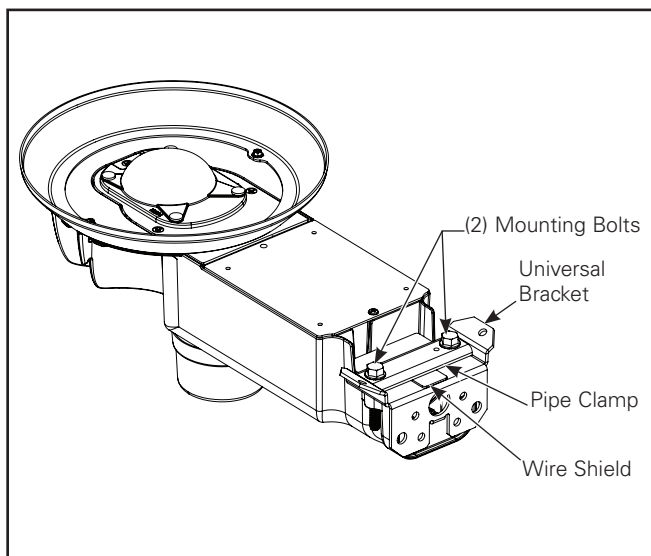

Figure 1.
1. Use a 1/2" socket wrench to remove wall/pole mount bracket from fixture and set aside two fixture mounting bolts and wire shield. Discard pipe clamp bracket. (Figure 1.)
1. Use a 1/2" socket wrench to remove pipe clamp bracket from fixture and set aside two fixture mounting bolts. (Figure 1.)